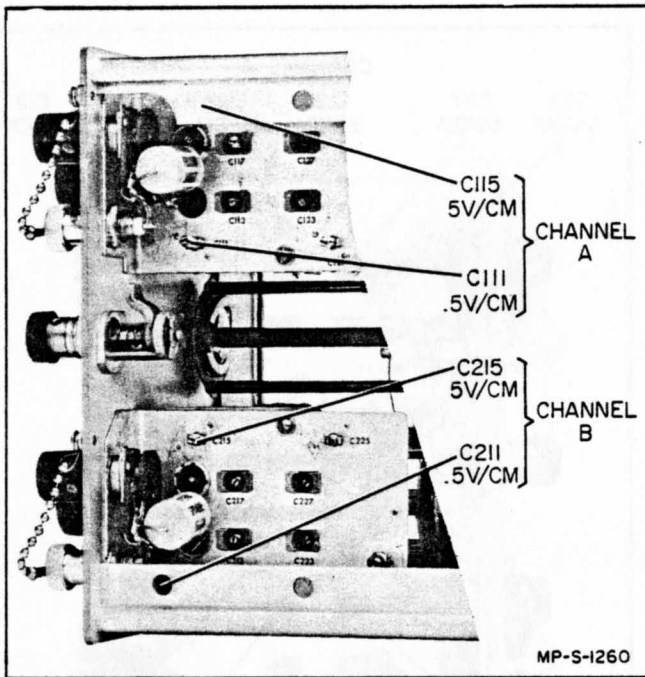

Figure 5-7. Attenuator Input Capacitance Adjustment Location
d. Adjust capacitors as shown in table 5-7 for best square wave (figure 5-7).